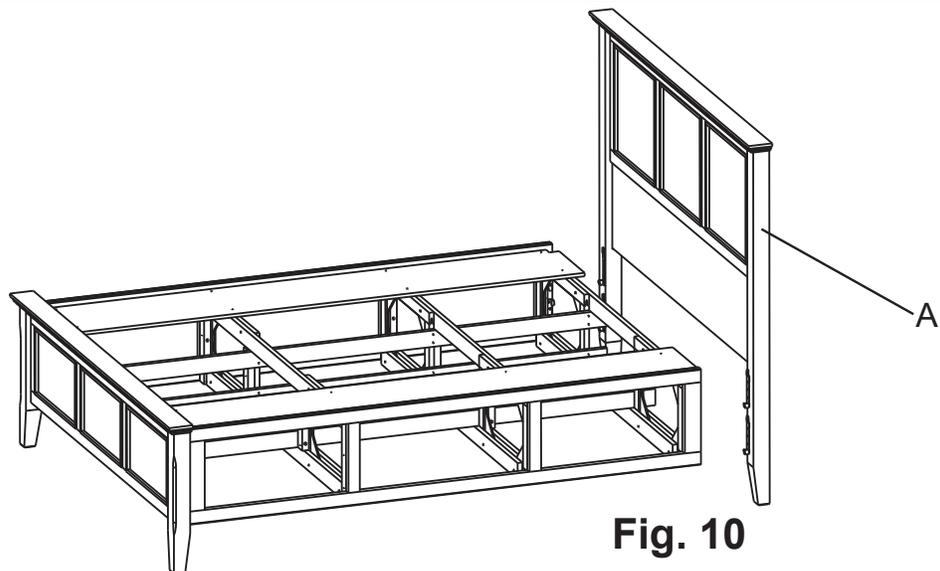

Fig. 10
10. Attach Headboard (A) to Pedestal Assembly as in previous step. See Figure 10.